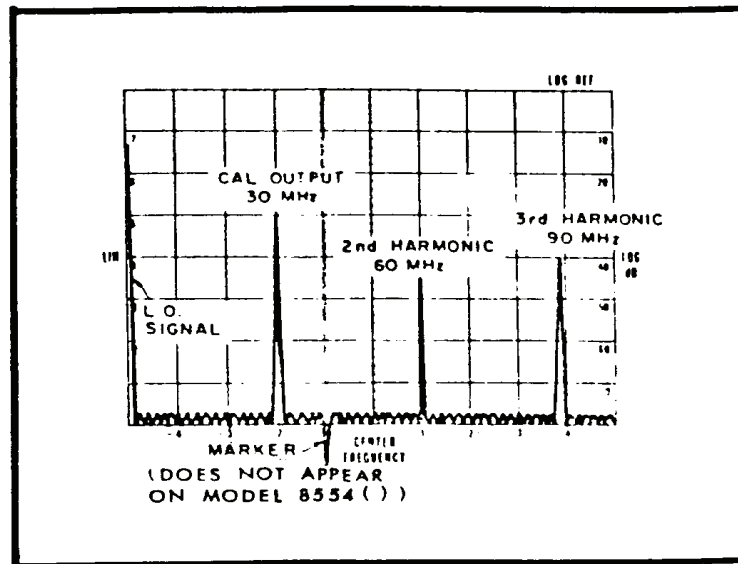

Figure 1. 30 MHz calibration signal and harmonics.
- k.** Position TI controls as listed in (1) through (5) below:
- (1) **DISPLAY ADJUST VERTICAL POSITION** control adjusted to place trace on bottom horizontal graticule line.
- (2) **LOG REF LEVEL** switch to **0 dBm**.
- (3) **DISPLAY ADJUST HORIZONTAL POSITION** control adjusted to center trace on display.
- (4) **DISPLAY ADJUST HORIZONTAL GAIN** control adjusted for a 10 division **SCAN WIDTH** display.
- (5) Repeat **k** (1) above.
- l.** Connect RF plug-in **RF INPUT** to **TI CAL OUTPUT**, using cable (and adapter for Model 8554B). Display section will indicate as shown in figure 1.
- m.** Position RF plug-in controls as listed in (1) through (5) below:
- (1) Model 8553( ) only: **FREQUENCY** control adjusted to position inverted marker under **CAL OUTPUT 30 MHZ** marker (fig. 1).
- (2) **SCAN WIDTH PER DIVISION** switch to **0.05 MHz** (50 kHz on Model 8554B).
- (3) **BANDWIDTH** switch to **10 kHz**.
- (4) **SCAN WIDTH** (red) switch to **PER DIVISION**.
(5) **FREQUENCY** control adjusted to center **CAL OUTPUT 30 MHz** marker (fig. 1) on display.
**LOG** and **LIN** scales are not on some display sections. If not, use figure 1 as guideline.
p. Adjust **DISPLAY ADJUST VERTICAL GAIN** control to position signal amplitude display exactly on **LOG REF** (top) graticule line (fig. 1).
r. Position TI controls as listed in (1) and (2) below:
- (2) **LINEAR SENSITIVITY** control to **1 mV/DIV** (1 mV X 1).
- s. Position RF plug-in controls as listed in (1) through (4) below: